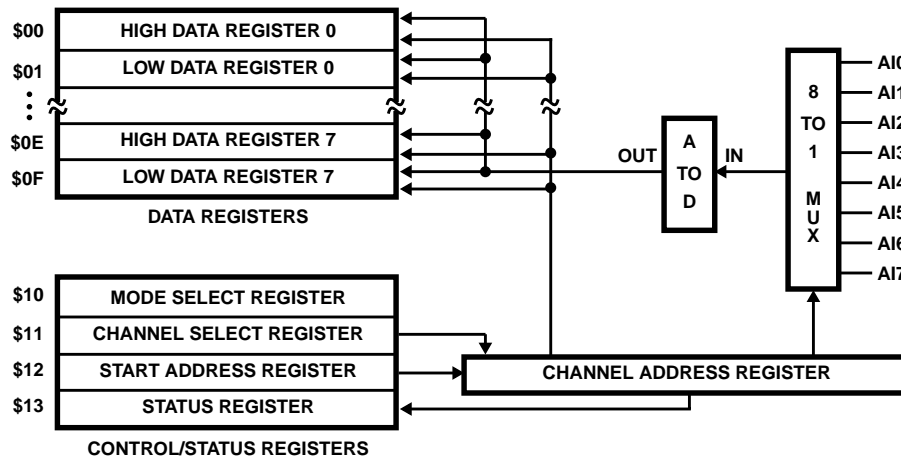

FIGURE 1. A PROGRAMMER'S MODEL OF THE CDP68HC68A2
From the programmer's perspective, the A2 is comprised of three control registers (Mode Select Register - MSR, Channel Select Register - CSR, and Starting Address Register - SAR), a status register (SR), an array of eight pairs of Data Registers, and one non-addressable, internal register (Channel Address Register). See Figure 1.
The format of the address/control byte is shown in Figure 4. The most significant bit is the \bar{R}/W bit. When \bar{R}/W is 0, read operations are to be performed. If \bar{R}/W is 1, write operations are to be performed. A0 through A4 specify the register to access. Data registers are mapped to address \$00 through \$0F. The Control and Status Registers are at locations \$10 through \$13 (See Figure 1).